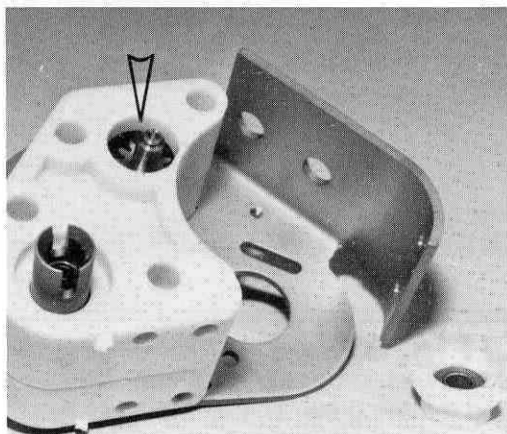

Fig. 89
- ☐ **Fig. 89** Oil and install the adaptor onto the dif shaft.